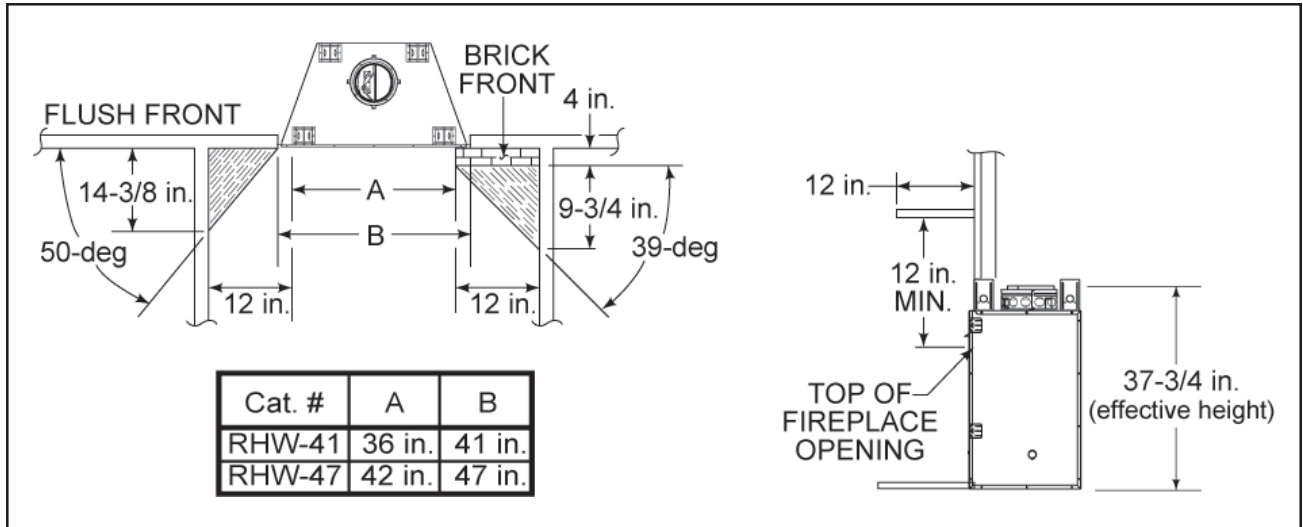

Figure 6 - Sidewalls and Surrounds
Adjacent combustible side walls must be located a minimum of 12 in. from the fireplace opening. See Figure 6. If you are using a decorative surround constructed of combustible material, it must be located within the shaded area defined in Figure 6. Short stub walls are also acceptable if they are contained within the shaded area.
- The effective height of the fireplace assembly is measured from the base of the fireplace to the top of starter collar. See Figure 6.